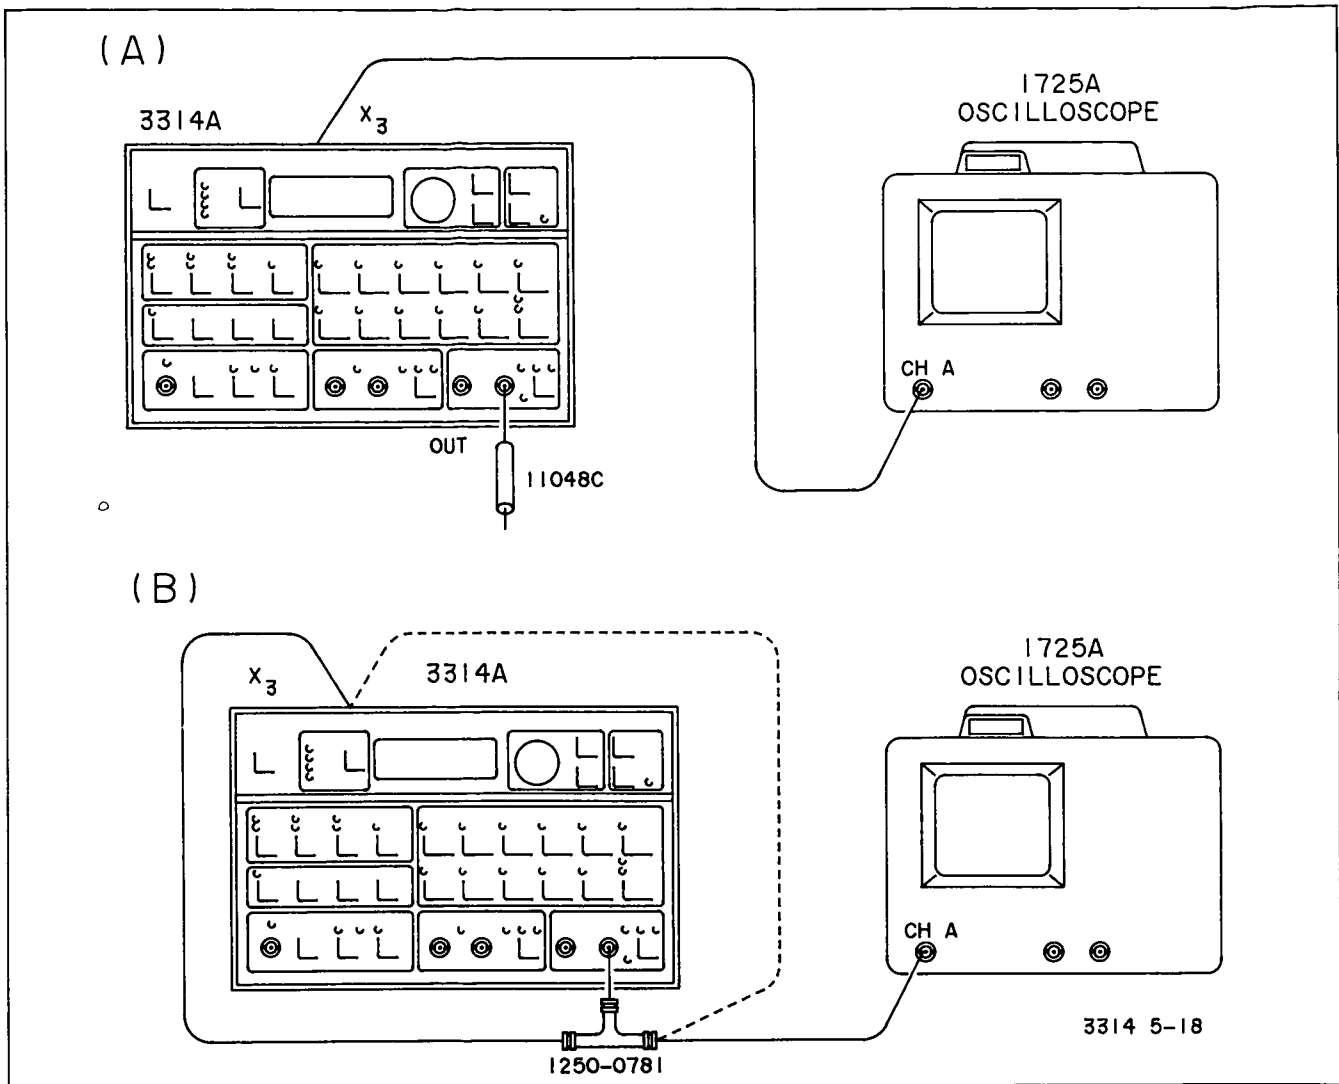

Figure 5-18. X3 (Option 001) Functional Check
I. Using another cable, connect the x_3 output to the other end of the TEE. (See part B of Figure 5-18.)